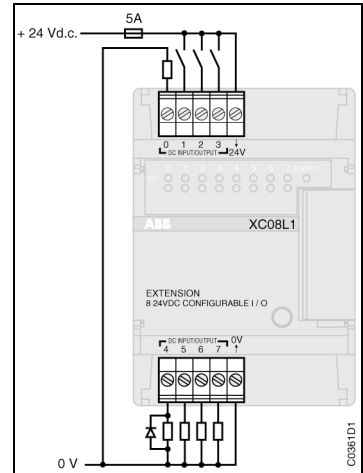

Figure 4-20 : Extension XC 08 L1
3.3. Extension XC 08 L1 (see Figure 4-20)